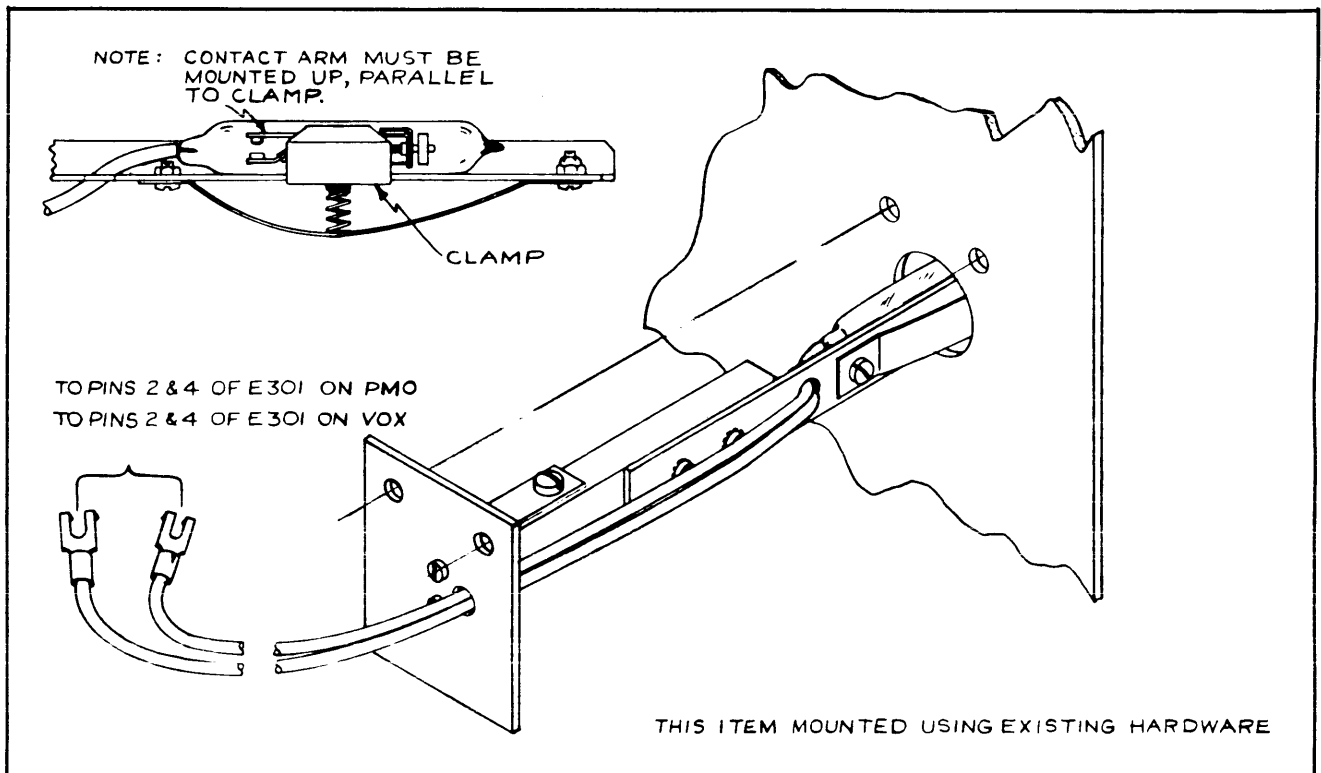

Figure 4-5. Installation, Inner Oven Thermostat.
Test all DC and AC voltages with the exception of the oven enclosed elements as indicated on the respective tube voltage data chart (Fig. 4-5) and investigate any serious discrepancies.
(2). If the tubes are not at fault, the unit must be removed from its rack mounting and be given a quick inspection for charred resistors or other visually recognizable signs of electrical failure. To localize the fault further, the additional procedures outlined below should be followed. In addition, reference to the voltage chart (Fig. 4-5) should be made.
If this occurs, the temperature will rise until the safety thermostat takes over. In normal operation after at least four or five hours warm-up, the operator will see the Outer Oven indicator blink on for roughly five seconds and off for roughly thirty seconds. The Inner Oven indicator will blink on for approximately 3 to 5 minutes and off for approximately 8 to 12 minutes. All of these figures are, of course, highly dependent upon the ambient temperature conditions. If the inner oven thermostat (S301) sticks, the Inner Oven indicator will cycle very erratically. A faulty unit such as this must be replaced. See Figure 4-5.